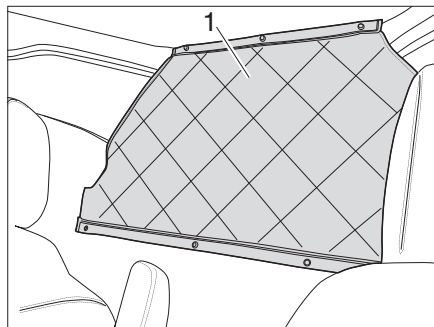

Fig. 14 Unrolling the entrance cover
- Unroll the entrance cover (Fig. 14,1).
- Close the entrance cover (Fig. 14,1) with snap fasteners.